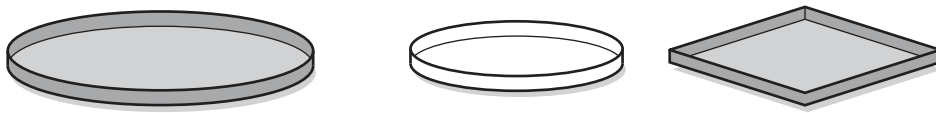

Fig. 12.3
- (e) The trays could be replaced with lids from used containers that would otherwise be thrown away. Fig. 12.3 shows a variety of lids.